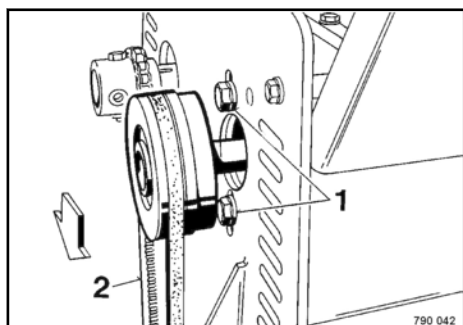

Fig. 55
Relieve the tension of vibration V-belt (2) ↪ Fig. 55 by slackening screw (1) and take it off.